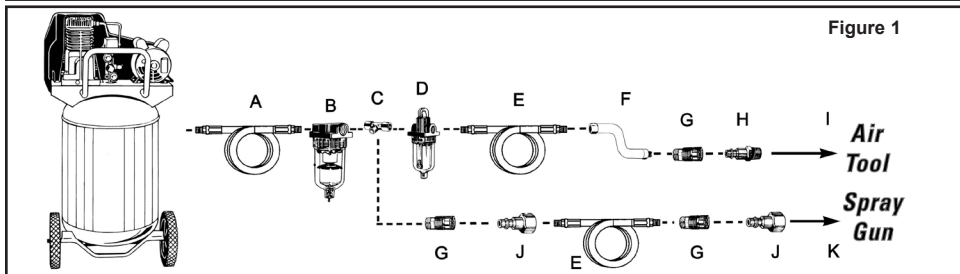

Figure 1
- Connect the tool to the air hose quick coupler. **NOTE: It is recommended that a whip hose with a swivel (not included) be used to prevent twisting, kinking and excessive wear to the air hose (ref. item "F" in figure 1 for recommended connections).**